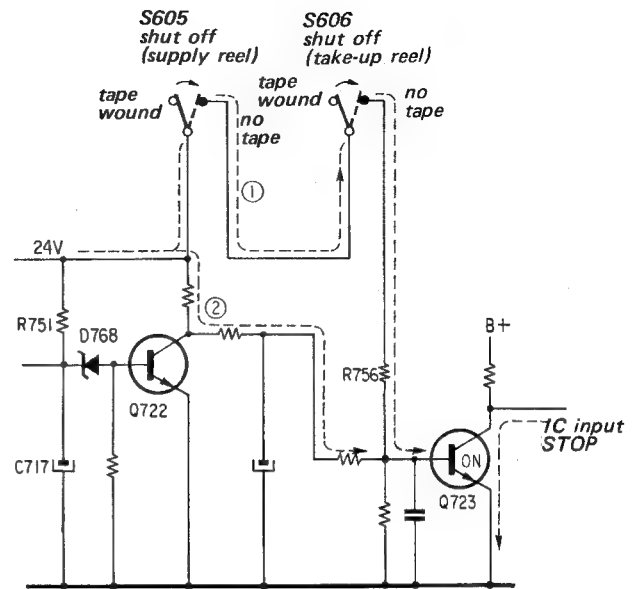

Fig. 14
12. STOP Circuit (Refer to Fig. 14) (Shut-Off Circuit)